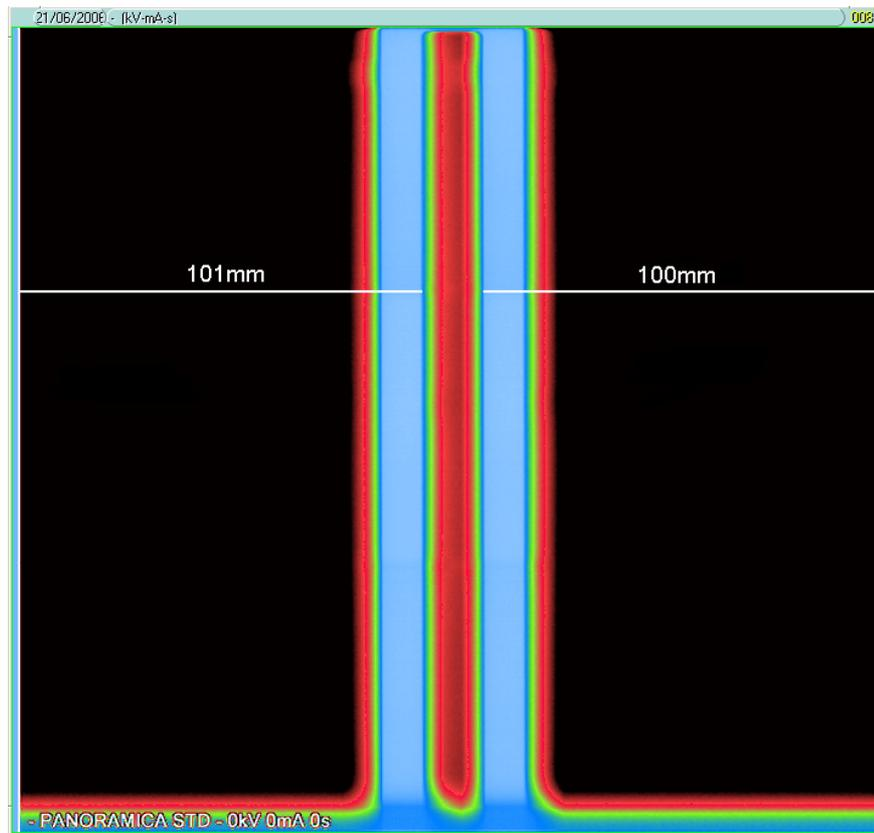

Figure 6-10
12. On the image taken with QuickVision, using the instruction in paragraph 7.1.2, measure the distances between the borders of the image and the borders of the central vertical stripe (Figure 6-10); to take the measure easily, you can use the QuickVision pseudo color function.